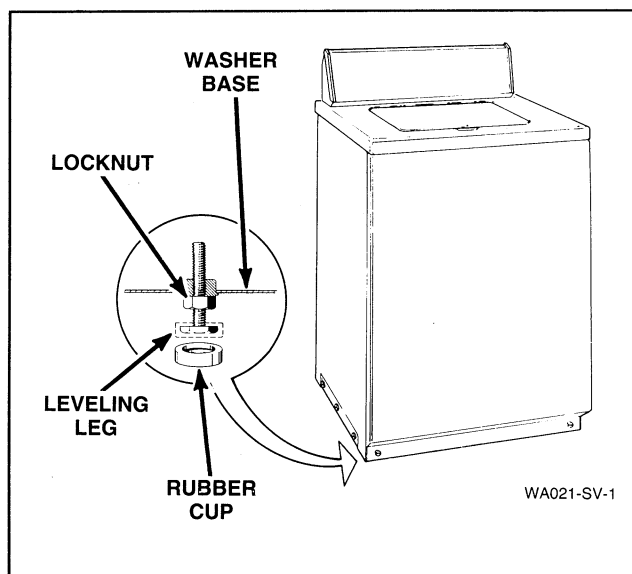

Figure 44
35. LEVELING LEGS (Refer to Figure 44)